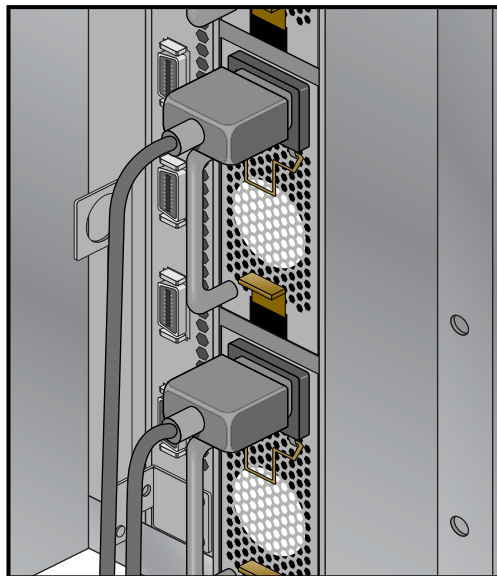

Figure 1-3 IRU Power Supply Cable Location Example
2. For each individual IRU that you want to power on, make sure that the power cables are plugged into all the IRU power supplies correctly, as shown in Figure 1-3. Setting the circuit breakers on the PDUs to the "On" position will apply power to the IRU and will start the chassis manager in each IRU. Note that the chassis manager in each IRU stays powered on as long as there is power coming into the unit. Turn off the PDU breaker switch that supplies voltage to the IRU if you want to remove all power from the unit.